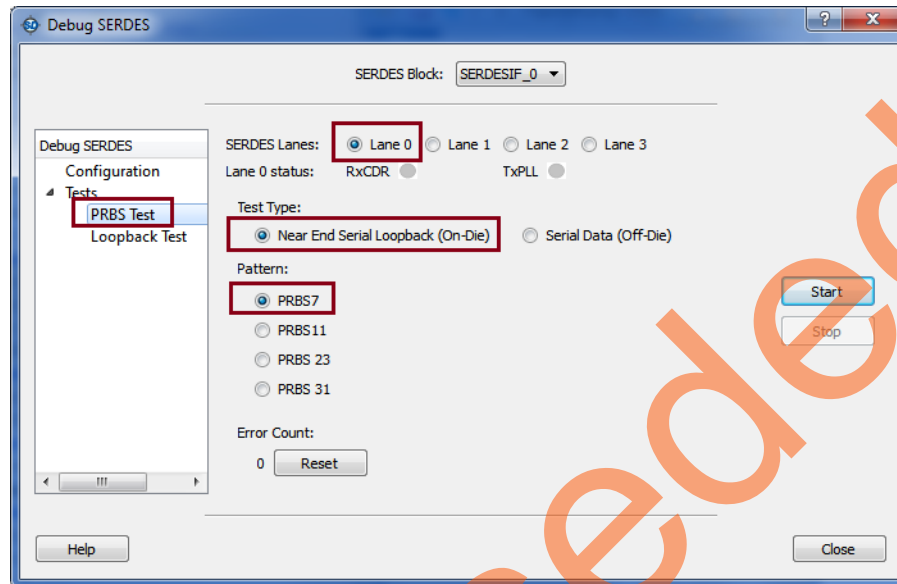

Figure 29 • SERDES Test Tab
- The **PRBS Test** tab provides several capabilities for each lane of the SERDES block. Based on the selected SERDES lane, information is provided for each channel. For example, select **Lane 0**, **Near-end Serial Loopback**, **PRBS7**, and click **Start**, as shown in Figure 29.